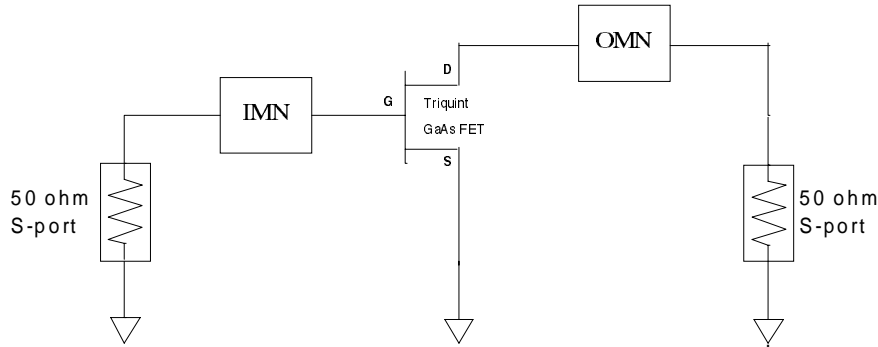

Figure 7: Final amplifier circuit
- Construct the circuit shown in Figure 7. The FET bias parameters are unchanged.